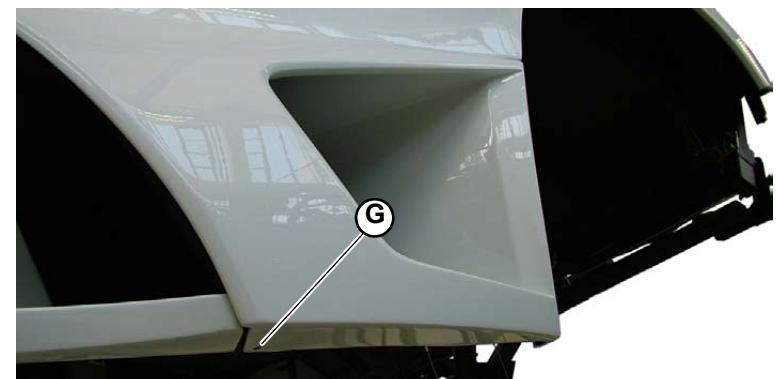

Fig.4
8. Tighten the screw (G-Fig.4) on the lower part of the conveyor.